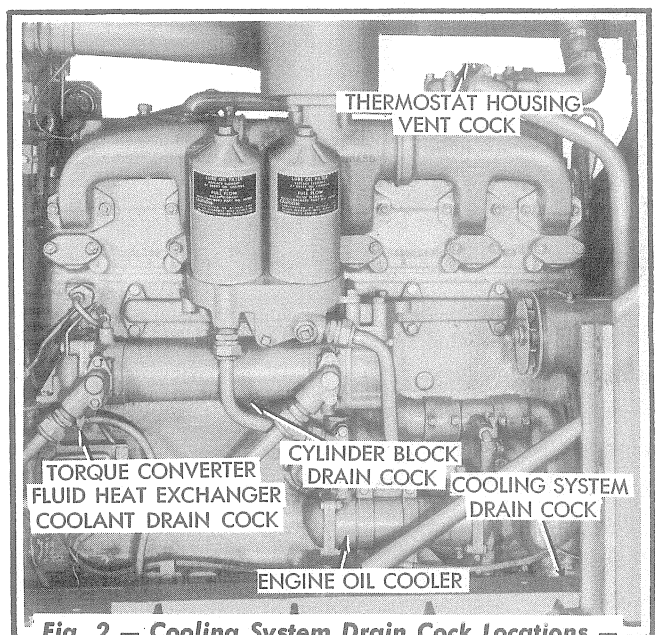
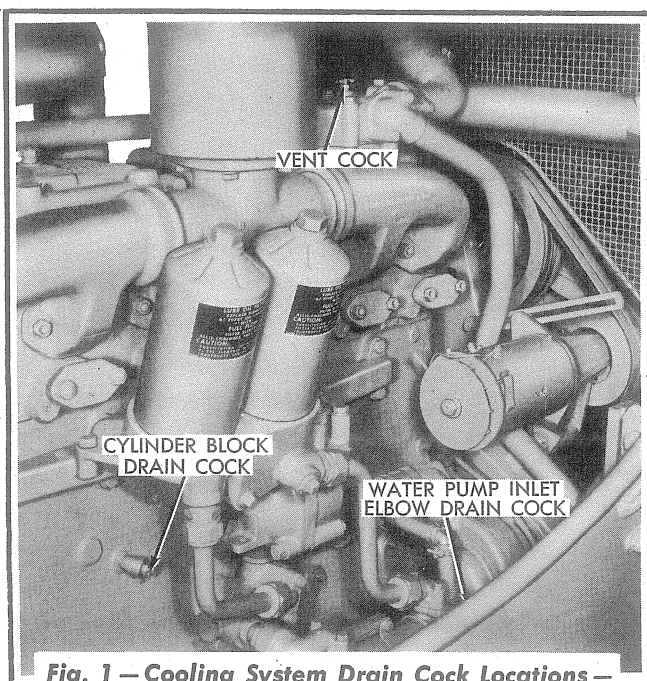
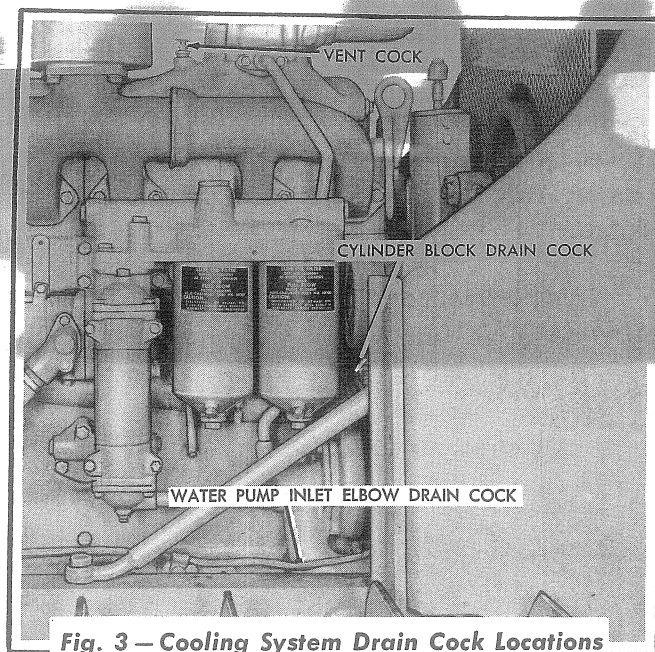

Fig. 2 — Cooling System Drain Cock Locations — Tractors with Torque Converter (Tractors Serial No. 1508 to 4001)
Fig. 1 — Cooling System Drain Cock Locations — Tractors Without Torque Converter (Tractors Serial No. 1508 to 4001)
Fig. 3 — Cooling System Drain Cock Locations
Remove the radiator filler cap. Remove the water drain access cover from the bottom of the crankcase guard, then reaching through the opening in the crankcase guard, open the cooling system drain cock located in the bottom of the water pump. Open the cylinder block drain cock located on the right side of the cylinder block (Fig. 1). **NOTE:** On tractors Serial No. 1508 to 4001 (tractors with torque converter) open the water drain cock located in the fluid heat exchanger rear bonnet (Fig. 2).
exchanger will drain back into the water pump and out the drain cock located in the bottom of the water pump assembly (Fig. 3). Open the water manifold vent cock located in the top of the water outlet manifold cover (Figs. 1 and 2) or in the top of the manifold front section (Fig. 3).
3. On tractors Serial No. 4001 and above (refer to Figs. 3 and 11).